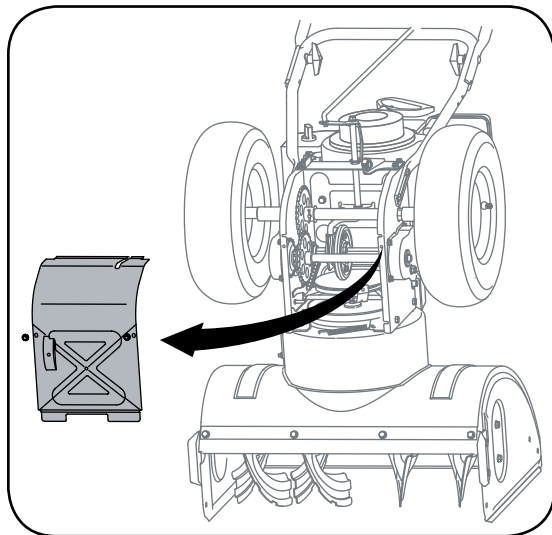

Figure 22
1. With the snow thrower tipped forward (be certain to drain gasoline or place plastic film under the gas cap if the snow thrower has already been operated), remove the frame cover underneath the snow thrower by removing the self-tapping screws. Refer to Figure 22 in Maintenance section.
2. Drain the gasoline from the snow thrower, or place a piece of plastic under the gas cap. Carefully tip the snow thrower up and forward, so that it rests on the housing. Remove the self-tapping screws from the frame cover underneath the snow thrower and move the frame cover away. See Figure 22.